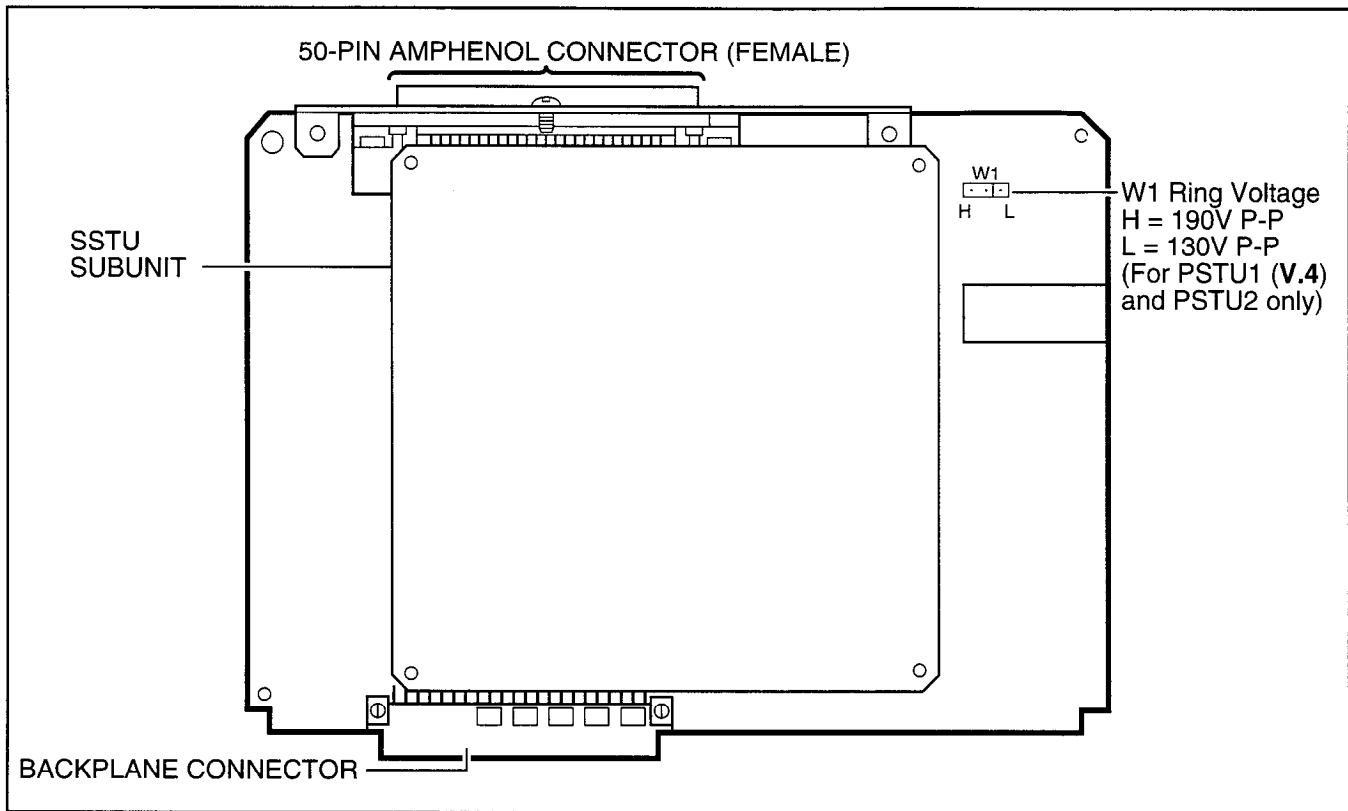

FIGURE 5-15
9.02 PSTU controls are shown in Figure 5-15 and described in Table 5-C.
- 2) Ensure that the PSTU subunit (SSTU) is securely attached to the PSTU (refer to Figure 5-15).
- 2) Ensure that the PESU subunit (ESTS) is securely attached to the PESU (refer to Figure 5-15).